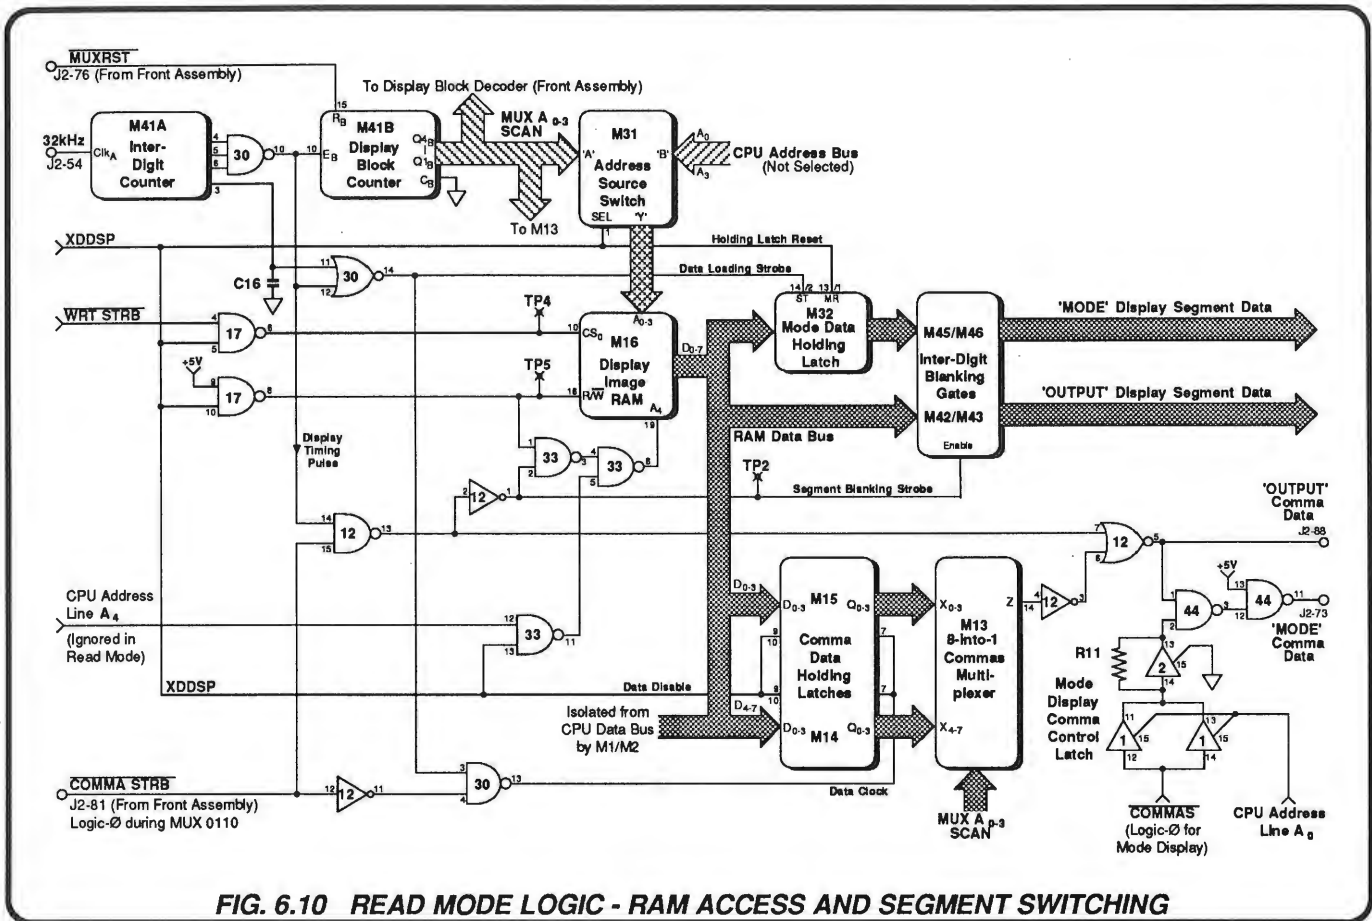

FIG. 6.10 READ MODE LOGIC - RAM ACCESS AND SEGMENT SWITCHING
(Fig. 6.10)
(Figs. 6.10 and 6.11)
6.3.4.6 Comma Logic (Figs. 6-10 and 6.13)